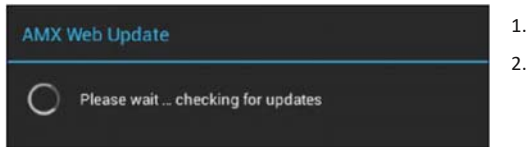

FIG. 121 AMX Web Update - Checking for updates
2. The panel will attempt to connect to AMX and look for any potential/available firmware updates for the platform (FIG. 121):